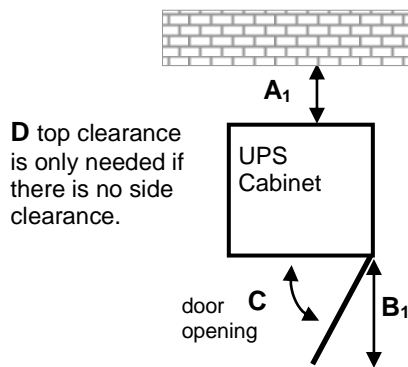

Figure 1: top view and indication of the minimum clearances for single UPS.
**UPS :** A minimum 20 cm rear space from the UPS to an obstruction is recommended for proper cooling as the air enters at bottom/front and exits at unit rear (see Fig. 1. and 2.)